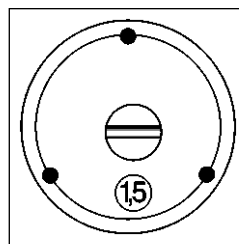

Figure 5: Selecting the lift (except series SK 14 and SK 15)
10. **Setting of the lift (except SK 14, SK 14 short und SK 15):** Open the rear cap of the gun. Behind it there is an adapter screw for adjusting the lift in steps of 0.5 mm (figure 5). **Do not set any in-between values!** Select lift settings according to figure 2.